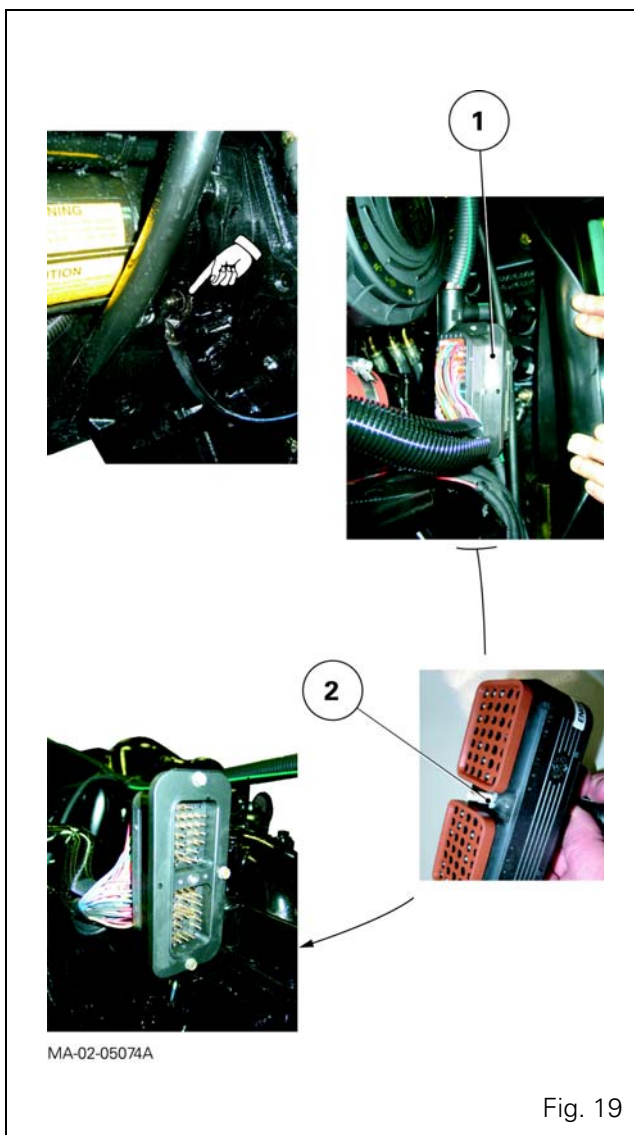
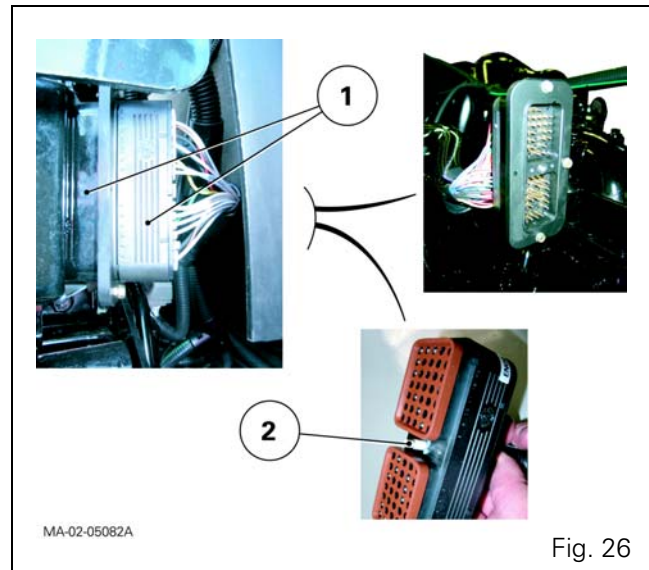

Fig. 19
Fig. 26
43. Disconnect the negative cables on the block at the rear left-hand side of the engine (Fig. 19).
44. If necessary, disconnect the connector (1) of the main wiring harness (Perkins EEM engine) (Fig. 19).
- screw (2) of the connector (1) on the main harness (Perkins EEM engine) (Fig. 19 and Fig. 26) to a torque of 2.82–3.15 Nm.